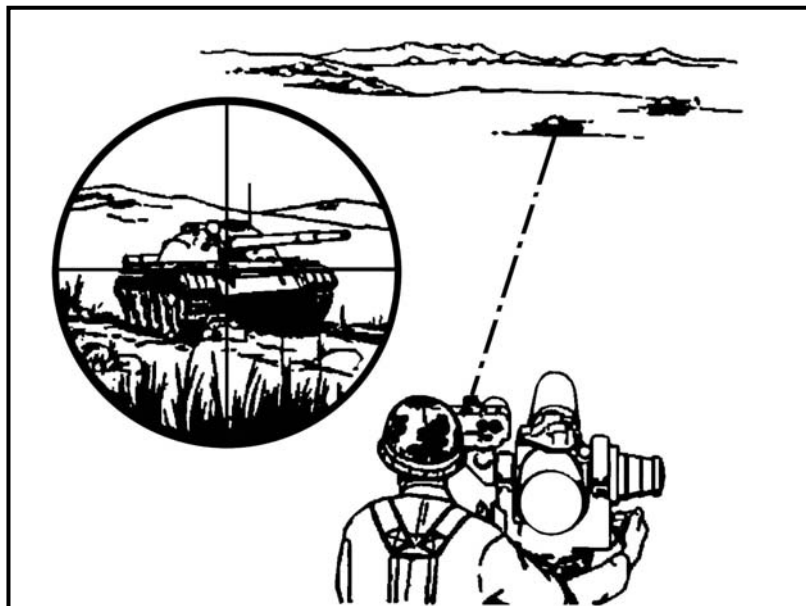

Figure 5-11. Crosshairs on the center of visible mass of the target.
b. Raise the trigger protective cover and establish a smooth tracking rate while keeping the crosshairs on the center of visible mass of the target (Figure 5-11).